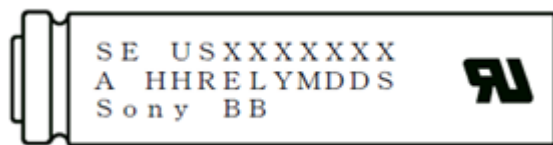

Fig.1
5.2 Trade Mark (Fig.1: USxxxxxx)
5.3 Plant (Fig.1: A for plant code)
5.4 Specification (Fig.1.: HH for Cell Type)
5.5 Lot Number (Fig.1 : YMDDS for Manufacturing Date of Cells)
Recognition Mark on the right side of Fig.1
5.7 Korean regulation (Fig.1: Sony BB)